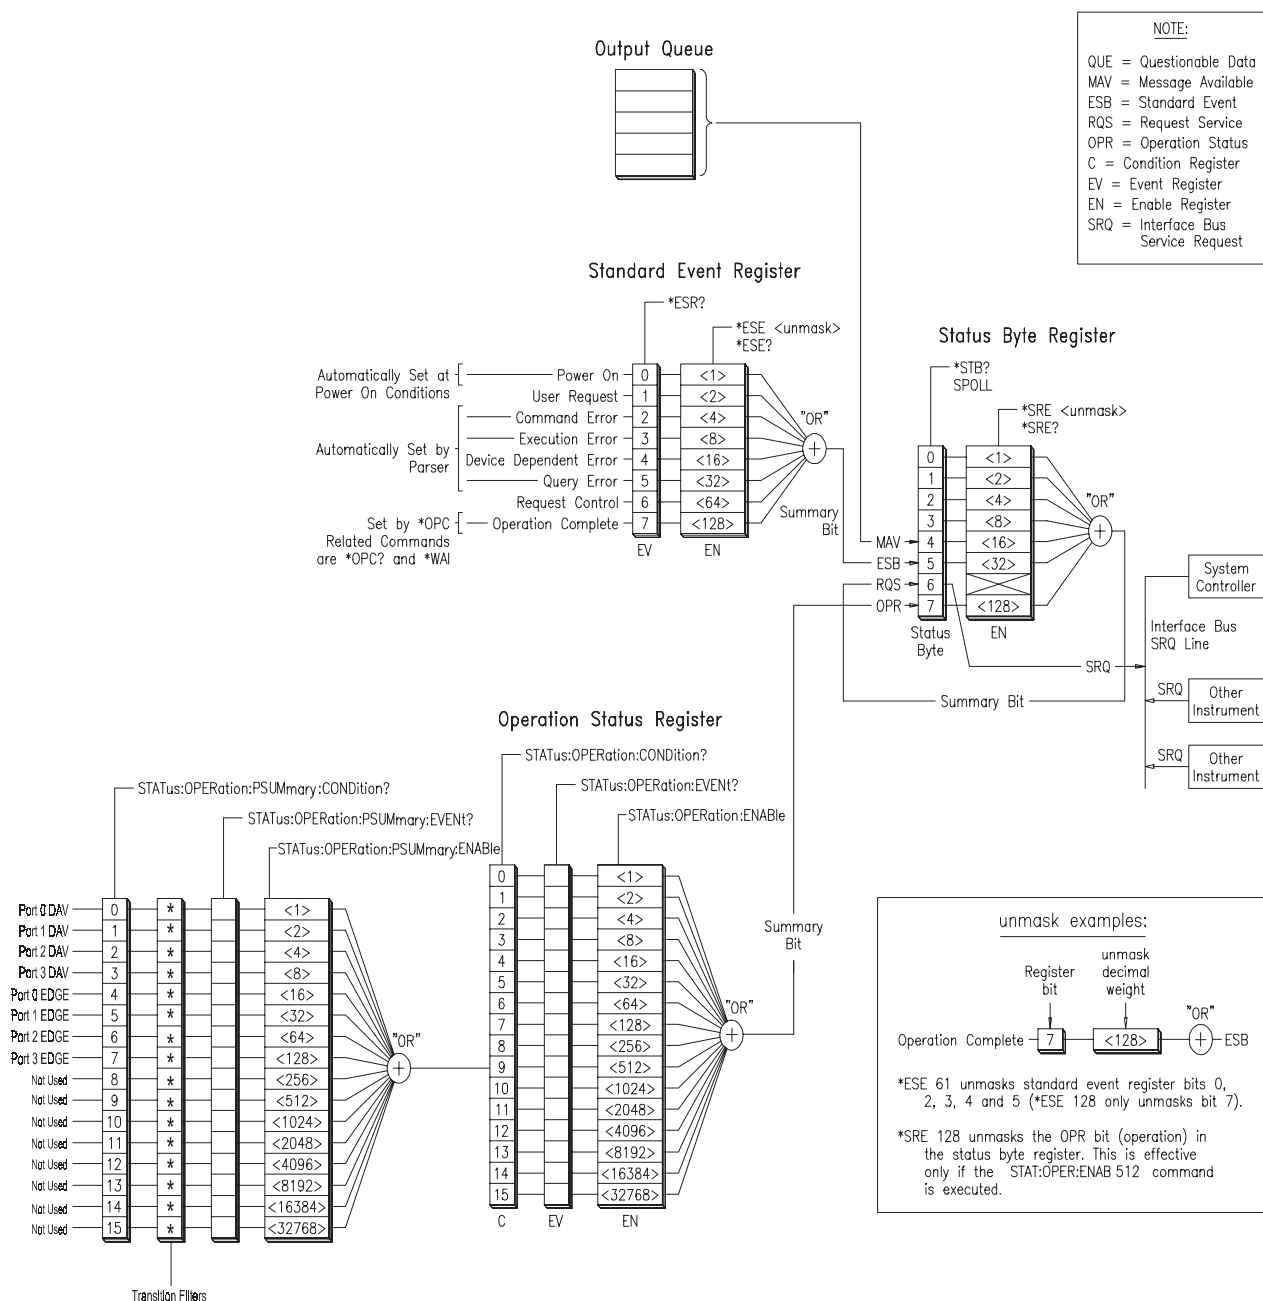

Figure 3-1. HP E1459A Status System Register Diagram
The STATus system contains five registers, two of which are under IEEE 488.2 control: the Event Status Register (*ESE?) and the Status Byte Register (*STB?). The Operational Status bit (OPR), Service Request bit (RQS), Event Summary bit (ESB), Message Available bit (MAV) and Questionable Data bit (QUE) in the Status Byte Register (bits 7, 6, 5, 4 and 3 respectively) can be queried with the *STB? command. Use the *ESE? command to query the *unmask* value for the Event Status Register (the bits you want logically "OR'd" into the Summary bit). The registers are queried using decimal weighted bit values. The decimal equivalents for bits 0 through 15 are included in Figure 3-1.
- <mask> determines which OPERation Status conditions are summed. See Figure 3-1. The events detected in the Port Summary Status Register are reported in bit 9 of the Operation Status Register which in turn is reported in bit 7 of the Status Byte Register.
Comments • The only defined bit is bit 9 which is the summary of the Data Available and Edge Status for Ports 0, 1, 2, and 3. See Figure 3-1.
Comments • Bits 0 through 3 reflect Data Available on Ports 0 through 3 respectively; bits 4 through 7 reflect edge events on Ports 0 through 3 respectively. See Figure 3-1.
- This mask determines which Operation Status Port Summary Events are summed and reported in bit 9 of the Operation Status Register. Bits 0 through 3 reflect Data Available on Ports 0 through 3 respectively; bits 4 through 7 reflect edge events on Ports 0 through 3 respectively. See Figure 3-1.